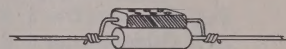

Figure 4
- (✓) Wrap the leads of a 47 μf silver mica capacitor (yellow-purple-black) around the leads of a 10 μf N750 ceramic capacitor as shown in Figure 4. Solder quickly with a hot iron to prevent damage to the capacitor.
- (✓) Connect the 10 μf N750 ceramic capacitor from terminal B on the 160 M coil (S) to the top solder lug on the 1 1/8" spacer (NS).
- (✓) Connect the 4.7 μf N750 ceramic capacitor from terminal C on the 40 M coil (S) to the top solder lug on the 1 1/8" spacer (NS).
- (✓) Connect a 22 K Ω 1/2 watt resistor (red-red-orange) from the top solder lug on the spacer (NS) to terminal D of the 160 M coil (NS).
- (✓) Connect a 2.2 K Ω 1/2 watt resistor (red-red-red) from the top solder lug on the 1 1/8" spacer (S) to terminal E of the 40 M coil (NS).